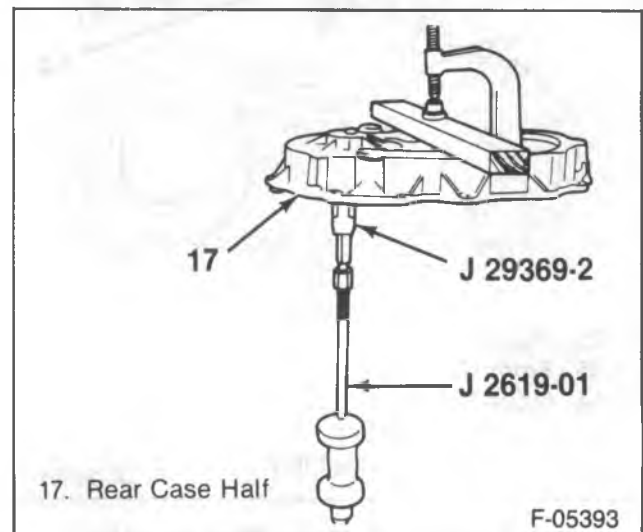

Figure 9—Removing the Front Output Shaft Rear Bearing
21. Front output rear bearing (24) from the rear case half (17).
- Using J 2619-5, hammer the bearing from the case (figure 9).
22. Mainshaft bearing (6) from the oil pump retainer (8).
23. Magnet (25) from the front case half (45).